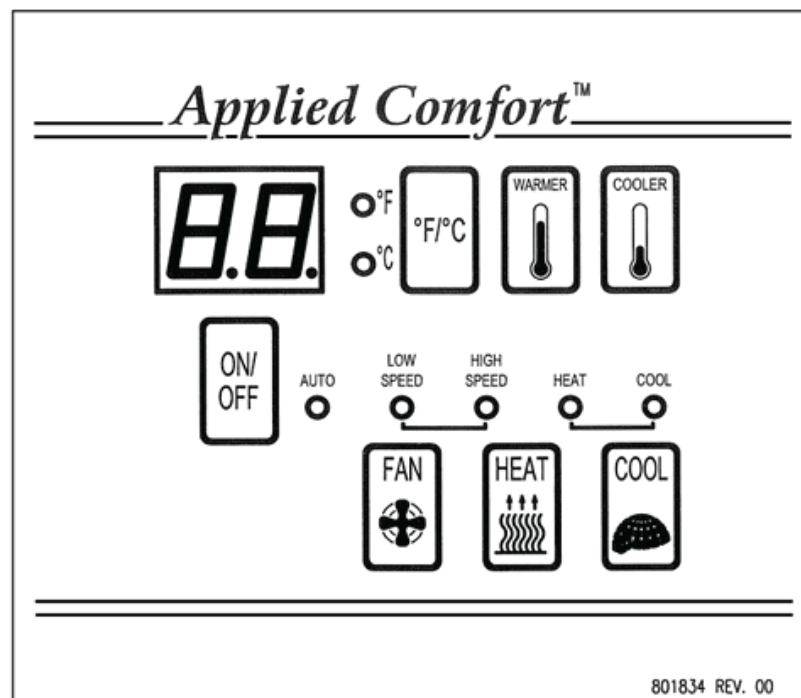

Figure 1.
2. Push the sleeve through the wall opening so that a minimum of $1/4"$ (6mm) projects past the outside wall. This will provide a fillet area for caulking (refer to figure 1). The centre of gravity is approximately $10\ 3/8"$ (273mm) from the rear face of the standard wall sleeve. If a sub base is not used or the wall sleeve is more than 4" off the floor, field support must be provided up to the centre of gravity. This support can be metal, wood, or concrete.